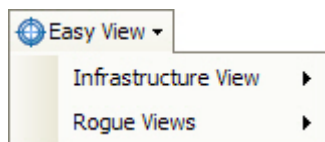

Figure 7-3: Infrastructure Easy View Categories
- 1) Click the  Easy View button in the Console's toolbar. The Easy View drop-down list appears. See Figure 7-3.